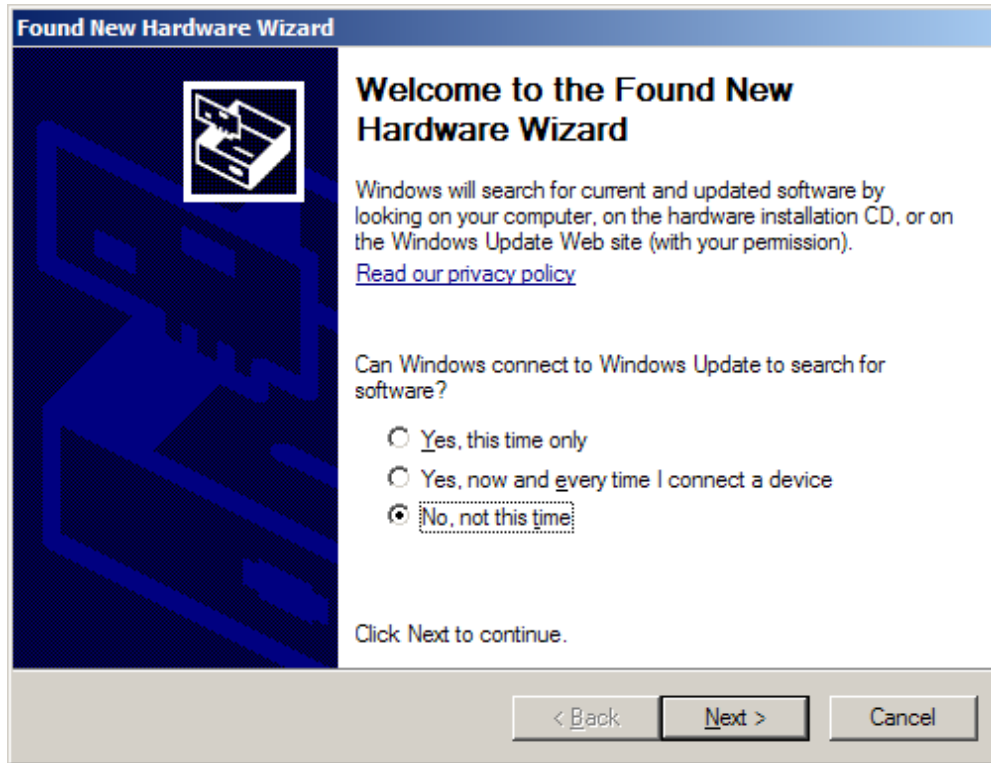

Figure 19. Install New Driver Wizard Screen 1
4. If you have not yet loaded the operating system drivers, Windows will display the Windows Install New Driver Wizard sequence (illustrated in Figure 19 through Figure 23). Accept the default settings.